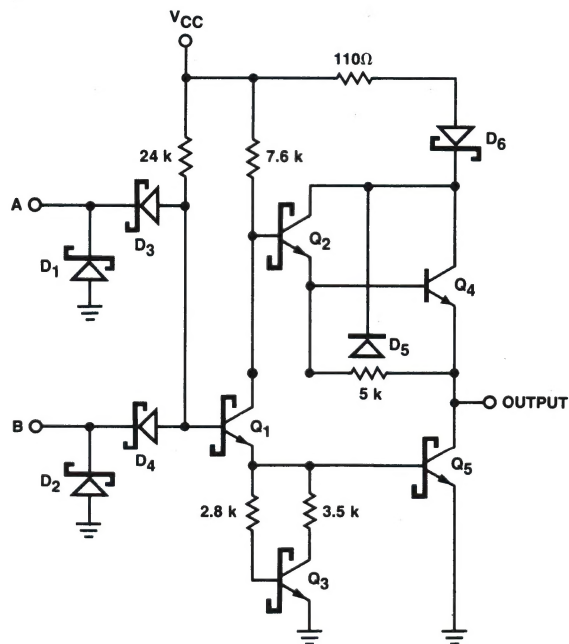

Fig. 2-1
LSTTL circuit features are best understood by examining the LS00 2-input NAND gate (*Figure 2-1*). The input/output circuits of all LSTTL, including SSI, MSI and MACROLOGIC TTL are almost identical. Although the logic function and basic structure of LS circuits are the same as conventional TTL, there are also significant differences.
**INPUT CONFIGURATION.** With a few exceptions, LSTTL circuits do not use the multi-emitter input structure that originally gave TTL its name. Most LS elements use a DTL type input circuit with Schottky diodes to perform the AND function, as exemplified by D3 and D4 in *Figure 2-1*. Compared to the classical multi-emitter structure, this circuit is faster and it increases the input breakdown voltage. Inputs of this type are tested for leakage with an applied input voltage of 10 V and the input breakdown voltage is guaranteed to be 15 V or more. *Figure 2-2* shows the  $V_{OUT}/V_{IN}$  transfer function of an LS00 gate. The input threshold is approximately 0.1 V lower than for standard TTL.
Another input arrangement often used in MSI has three diodes connected as shown in *Figure 2-3*. This configuration gives a slightly higher input threshold than that of *Figure 2-1*.
All inputs are provided with clamping diodes, exemplified by D1 and D2 in *Figure 2-1*. These diodes conduct when an input signal goes negative (*Figure 2-5*), which limits undershoot and helps to control ringing on long signal lines following a HIGH-to-LOW transition. These diodes are intended only for the suppression of transient currents and should not be used as steady-state clamps in interface applications. A clamp current exceeding 2 mA and with a duration greater than 500 ns can activate a parasitic lateral npn transistor, which in turn can steal current from internal nodes of the LS circuit and thus cause logic errors.
Referring to *Figure 2-1*, the base of the pull-down output transistor Q5 is returned to ground through Q3 and a pair of resistors instead of through a simple resistor. This arrangement is called a squaring network since it squares up the transfer characteristics (*Figure 2-2*) by preventing conduction in the phase splitter Q1 until the input voltage rises high enough to allow Q1 to supply base current to Q5. The squaring network also improves the propagation delay by providing a low resistance path to discharge capacitance at the base of Q5 during turn-off.
Figure 2-6 shows the extra circuitry used to obtain the “high Z” condition in 3-state outputs. When the Output Enable signal is LOW, both the phase splitter and the Darlington pull-up are turned off. In this condition the output circuitry is non-conducting, which allows the outputs of 2 or more such circuits to be connected together in a bus application wherein only one output is enabled at any particular time. Figure 2-6 also shows that the LS Buffers have a blocking diode in series with the resistor bridging the base-emitter of the pull-up transistor. This serves the same purpose as D6 in Figure 2-1 – it allows a 3-state Buffer output to be pulled up to 10 volts. Deleting the blocking diode from the Darlington collector return to  $V_{CC}$  also allows the Buffer to supply greater pull-up current during an output LOW-to-HIGH transition.